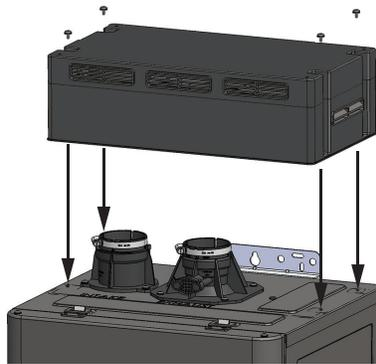

Figure 2 - Outdoor Vent Cap secure with screws.
- 4** Orient the outdoor vent cap as shown in Figure 2.
- 5** Secure the Outdoor Vent Cap to the water heater at each corner with the screws removed in **Step 3**. See Figure 2.